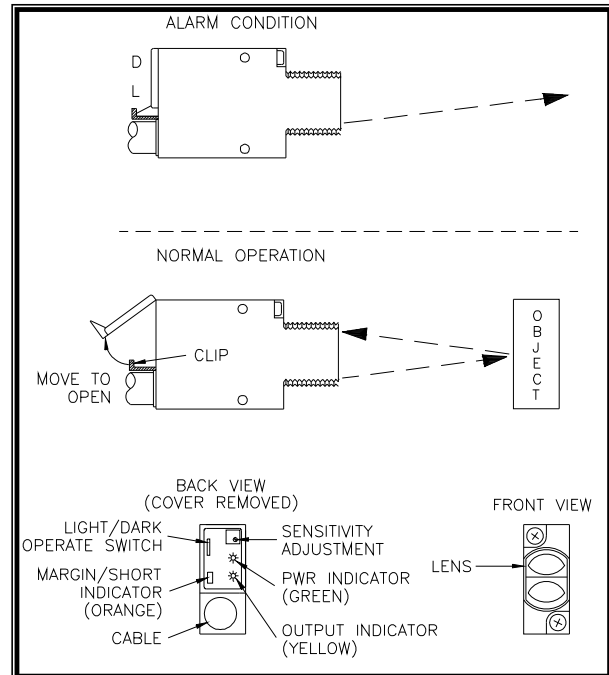

Figure 52 Low Label Detector
3. The rear cover window on the detector must be opened before any adjustments can be made. See Figure 52. Press the flexible retaining clip against the cable to open the window.